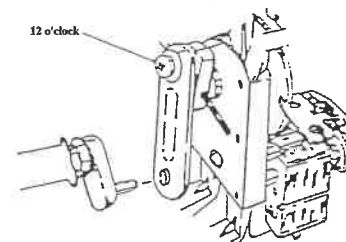
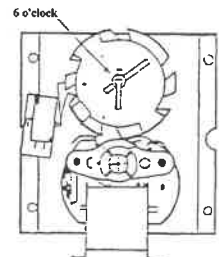

Fig. 10
Fig. 11
1. Make sure the hole through the rear shaft is in a horizontal plane. (If a pin were inserted in the hole, the pin would be horizontal). See Fig 10.
2. Slide the Drive Arm (with linkage attached) on the rear shaft as shown. See Fig. 10.
6. Install the Vending Cam on the front shaft of the Motor making sure that the Lock Tab is at 6 o'clock as shown. See Fig. 11.
**NOTE:** When the screw holding the Linkage Arm to the Drive Arm is at the 12 o'clock position (See Fig. 10), the Lock Tab will be at the 6 o'clock position (See Fig. 11).